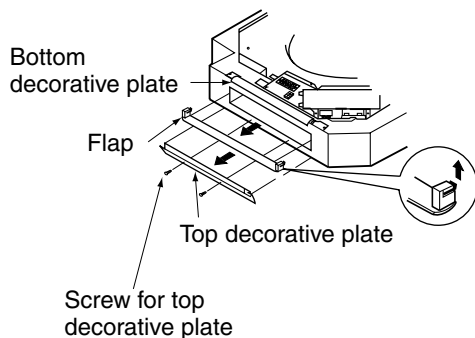

Fig. 11
1. Detach the top decorative plate from the outlets to be blocked. (Refer to Fig. 11)